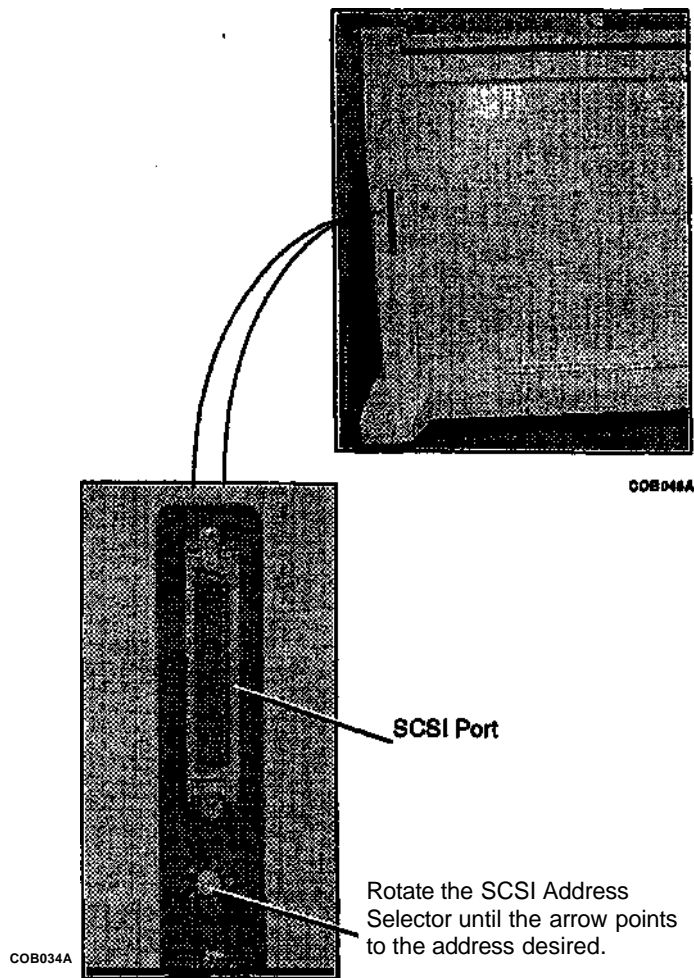

Figure 6-28. Setting the SCSI Address of the Scanner
5. (Figure 6-28): If SCSI address 0 (zero) is used by an existing device in the system, switch the SCSI Address Selector on the Scanner to an unused address.